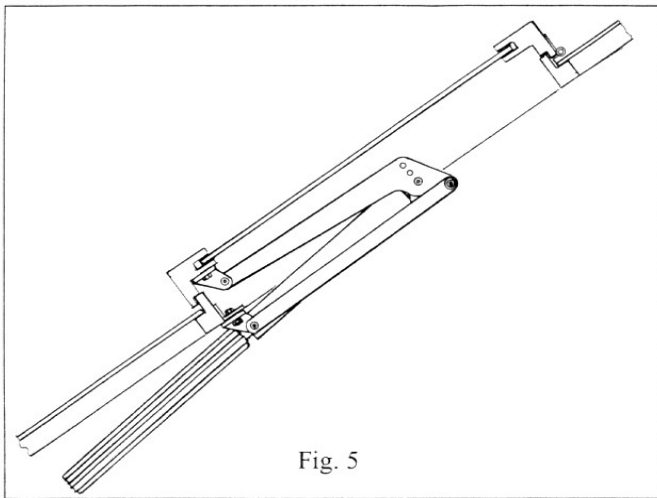

Fig. 5
- 1 Firstly you will have to choose in which direction you want the spring/shockabsorber – and later the cylinder- to face (see fig. 5+6). If it does not by delivery face in the desired direction, then you yourself can undo it and turn it a  $180^{\circ}$  (see fig. 2 + 3 + 4) before refastening it.
- 4 Turn the reliefbolt (relieves the springload during installation) until the arms all by themselves stay in the desired position for being fastened. Now the brackets can be fastened to the frame and the sill (see fig. 5 + 6), while the window or the lid is kept closed. Notice : the arms closest to the window should be parallel to it (see fig 5 + 6).